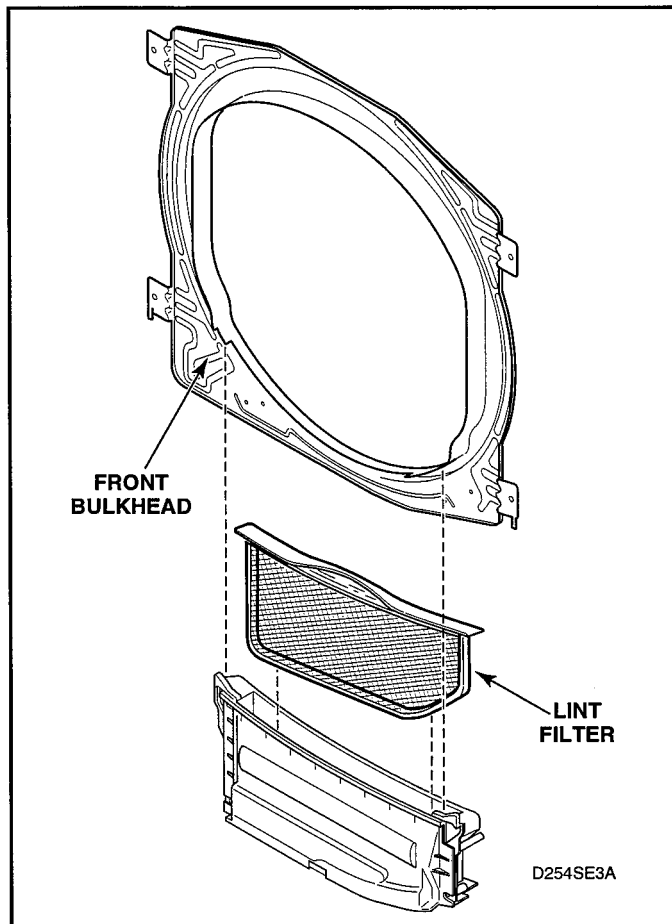

Figure 5-27
- f. Disconnect wires from moisture sensor terminals (if applicable). See figure 5-27.
- f. Disconnect two wires connected to the moisture sensor. See figure 5-27.